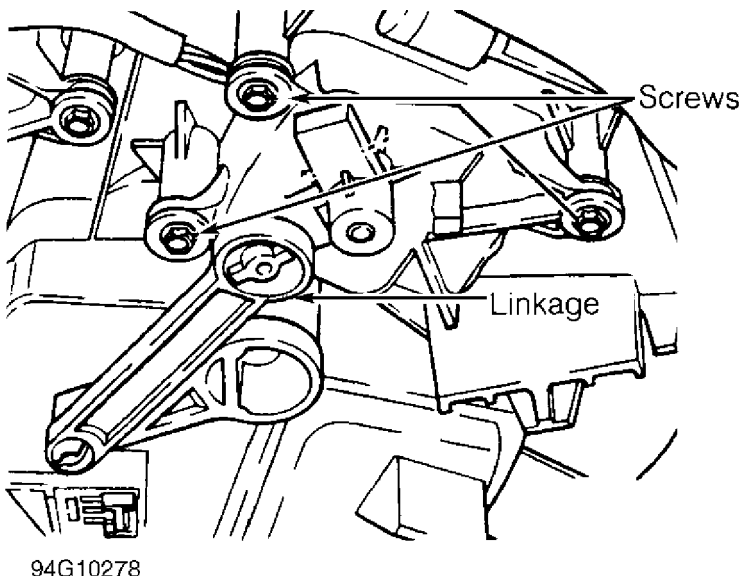

Fig. 8: Removing Temperature Regulator Flap Motor (90 CS)
4) To remove temperature regulator flap motor, disconnect wiring harness Brown connector and linkage at motor. See Fig. 8. Remove screws and flap motor. To install motors, reverse removal procedure.